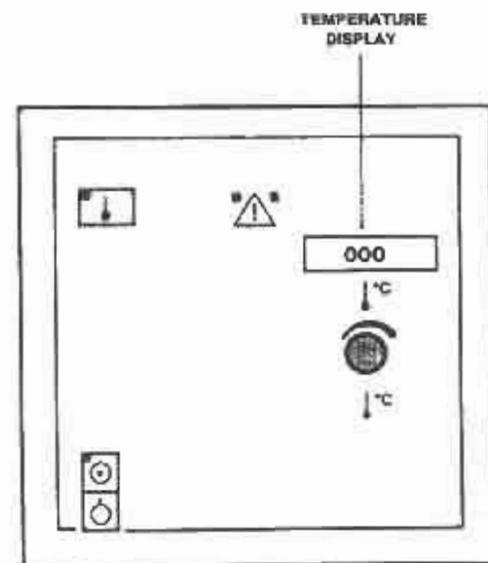

Figure 3-8. Temperature control calibration display.
- (1) Place the voltmeter negative probe on P6 - J1 and the positive probe on P1 - J1.
- (2) Adjust resistor "R26" until the voltmeter indicates +2.0 VDC  $\pm$  0.005.
- g. Connect a temporary jumper from the upper end of resistor "R29" to P3 - J1. Adjust resistor "R23" so that the temperature display is "000" (fig 3-8).
- (1) Lift the control housing slightly upward to release the latch and then lower it.
- (2) Open the storage compartment door.
- (3) Twist the screw located in the lower right corner to lock the control housing.
- (4) Close the storage compartment door.